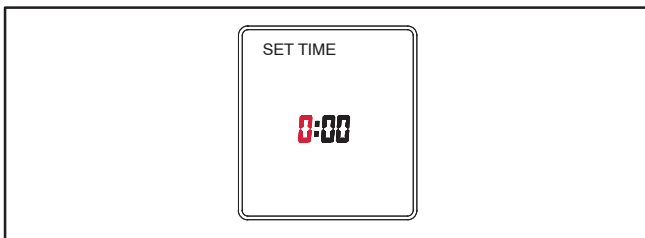

FIGURE 4. SETTING THE TIME
- 1.. With the exerciser clock powered, press the **MENU** button. Use the selector button (⤴) to select **SET TIME** which is displayed in the upper left-corner of the display (see Figure 4).